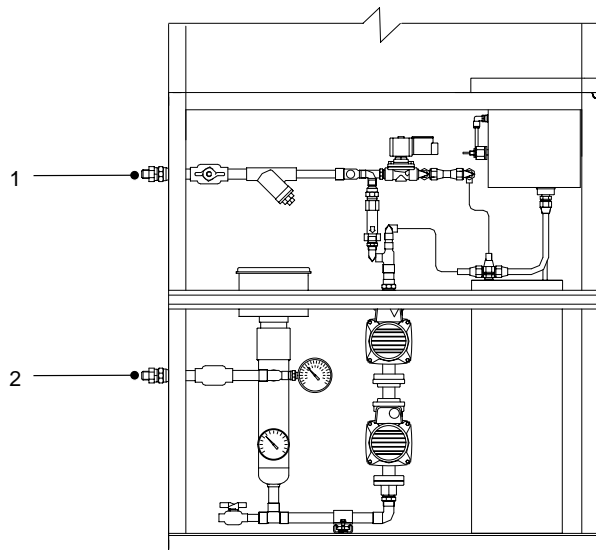

Figure 5 Typical Water Hose Connections
See Figure 5. Connect the system water hoses to the From Process (1) and the To Process (2) fittings. See the System Layout drawing provided with the system documentation for hose routing.